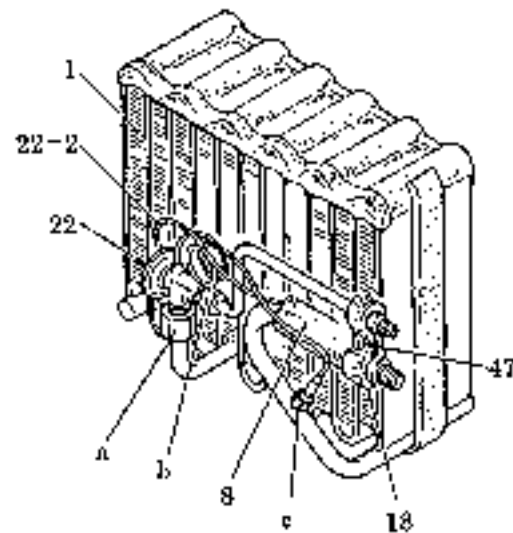

Fig. 15 Replacing expansion valve
**4.4 REPLACING EVAPORATOR AND EXPANSION VALVE (SEE FIG.15 AND 16.)**
- 2) Dismantle the assembly of evaporator (1) and expansion valve (22) from the casing, as shown in Fig.15.